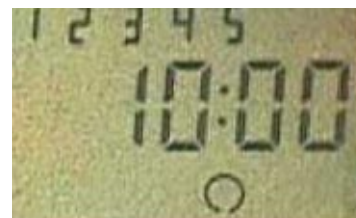

Fig. 6
- Press the Select button until the  symbol is shown (see fig. 6).